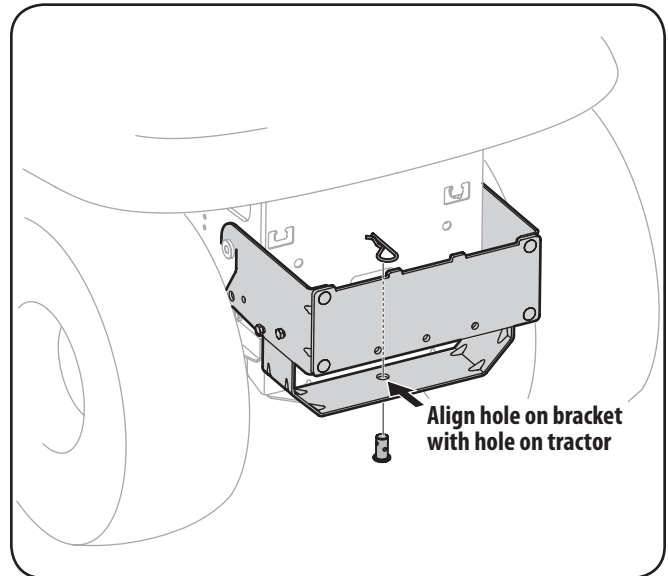

Figure 4-6
2. Install the clevis pin from hardware pack 689-00087 into the tractor's hitch and secure with a hairpin clip inserted into the top hole, which is the hole located closest to the head of the clevis pin. See Fig. 4-6.